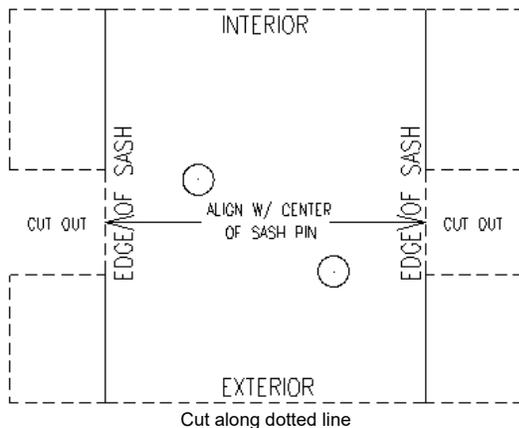

Figure 1
2. Cut out the below template. See figure 1. (Set printer to 100 percent scale.)